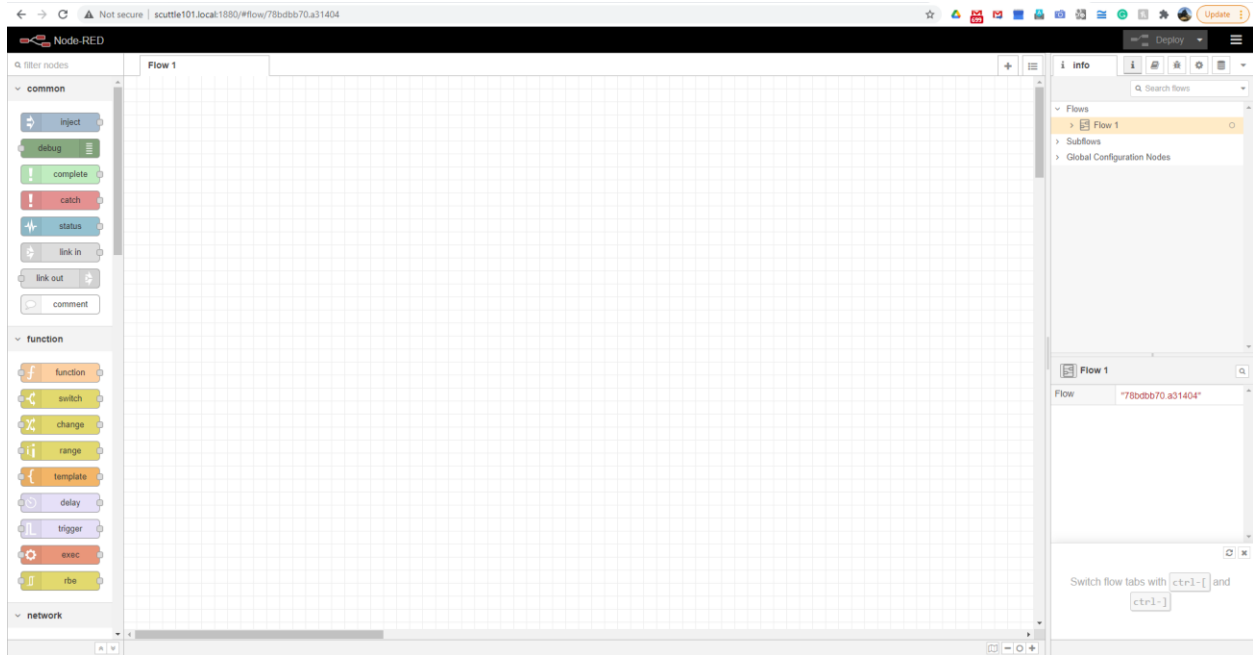

Figure 14
- c. When NodeRed loads, it should look like Figure 14 below.